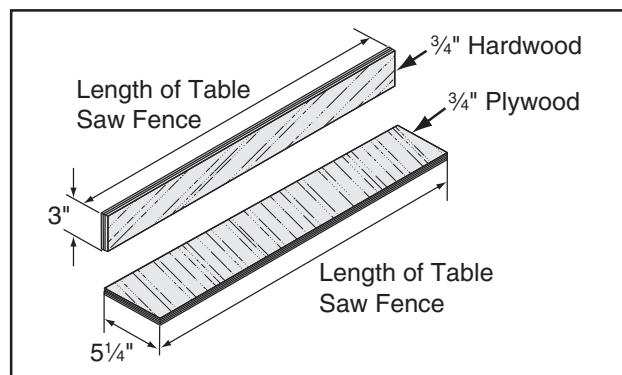

Figure 103. Auxiliary fence dimensions.
1. Cut a piece of $\frac{3}{4}$ " thick plywood $5\frac{1}{4}$ " wide and as long as your table saw fence; cut a piece of $\frac{3}{4}$ " thick hardwood 3" wide and as long as your table saw fence, as shown in **Figure 103**.